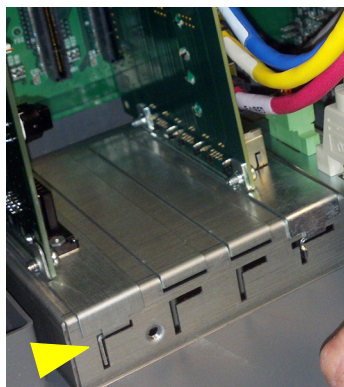

Figure A-10. Comm Module Bracket Keyed Slot
6. Place the new RS-485 Comm module(s) in the slot(s). Align the edge connector on the back of the board with the center of the vertical connector on the Comm Backplane board, then push the module board firmly in as far as it can go. The sheet metal bracket of the module slides into the comm bay slot and the front edge of the bracket goes into the keyed slot in the front of the Comm Bay (see Figure A-10).